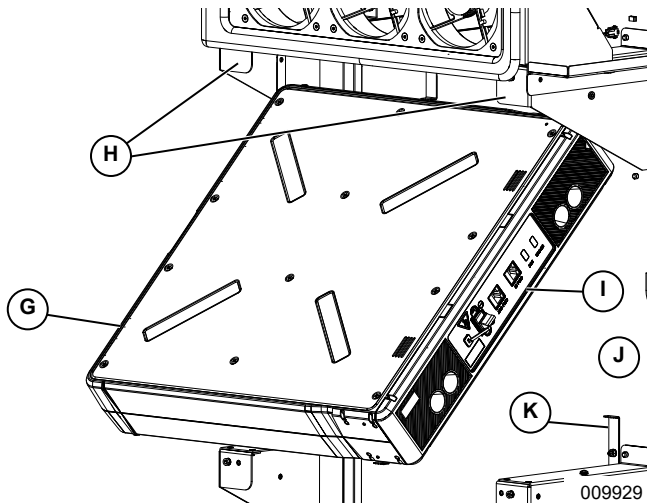

Figure 4-11. Installing Rear Battery Modules
2. See Figure 4-11. Angle top of battery module (G) under and behind bracket lip (H).